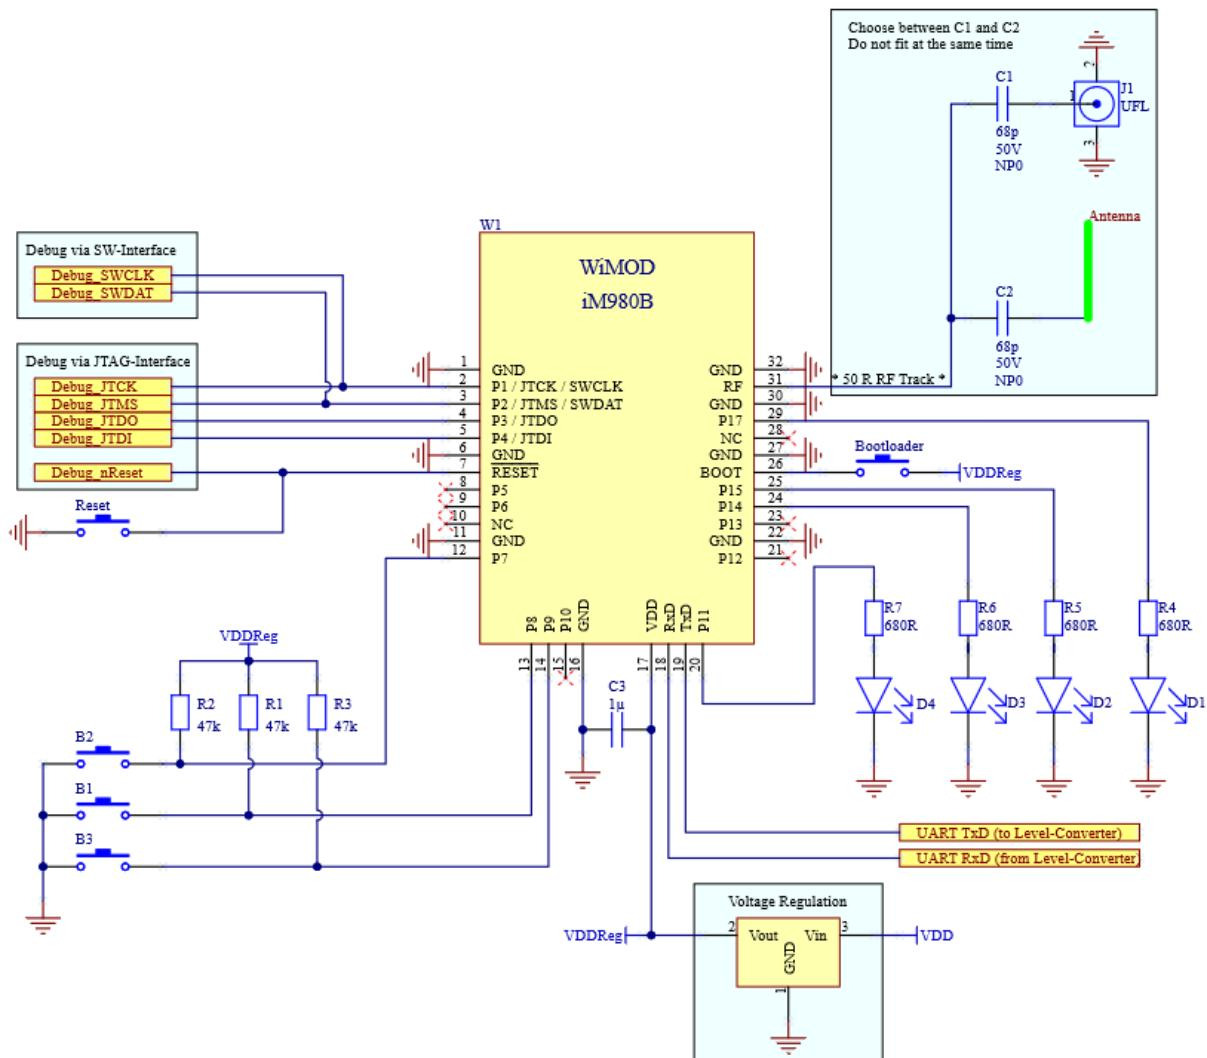

Figure 7-3: Typical Application Schematic for iM980B-MBand
The iM980B-MBand provides 32 pins as described in Chapter 5. For integrating the iM980B-MBand into an environment, a typical circuit as given in Figure 7-3 can be used. While designing the PCB Layout, the recommendations of Chapter 7.2 should be applied, as well as the recommendation for soldering in Chapter 7.7.
- A power supply regulator for the radio module, to supply the radio module with a voltage as required by Table 4-1 as shown in the reference schematic Figure 7-3